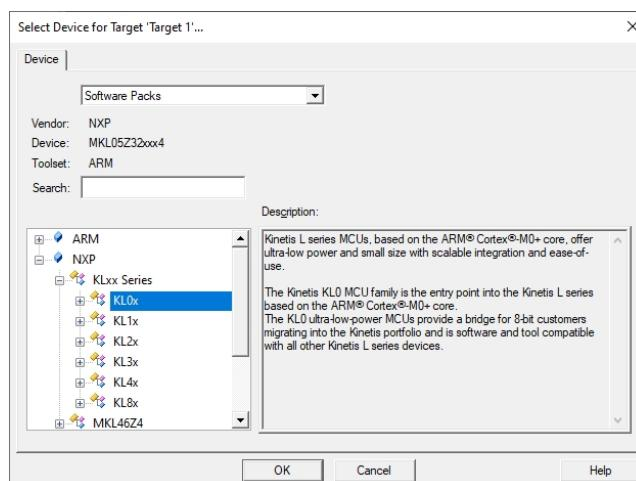

Figure 3. Select Device for Target Window
- e. Press the Save button to create your project. Keil µVision IDE will then launch the Select Device for Target 'Target 1' ... window, shown in Figure 3.